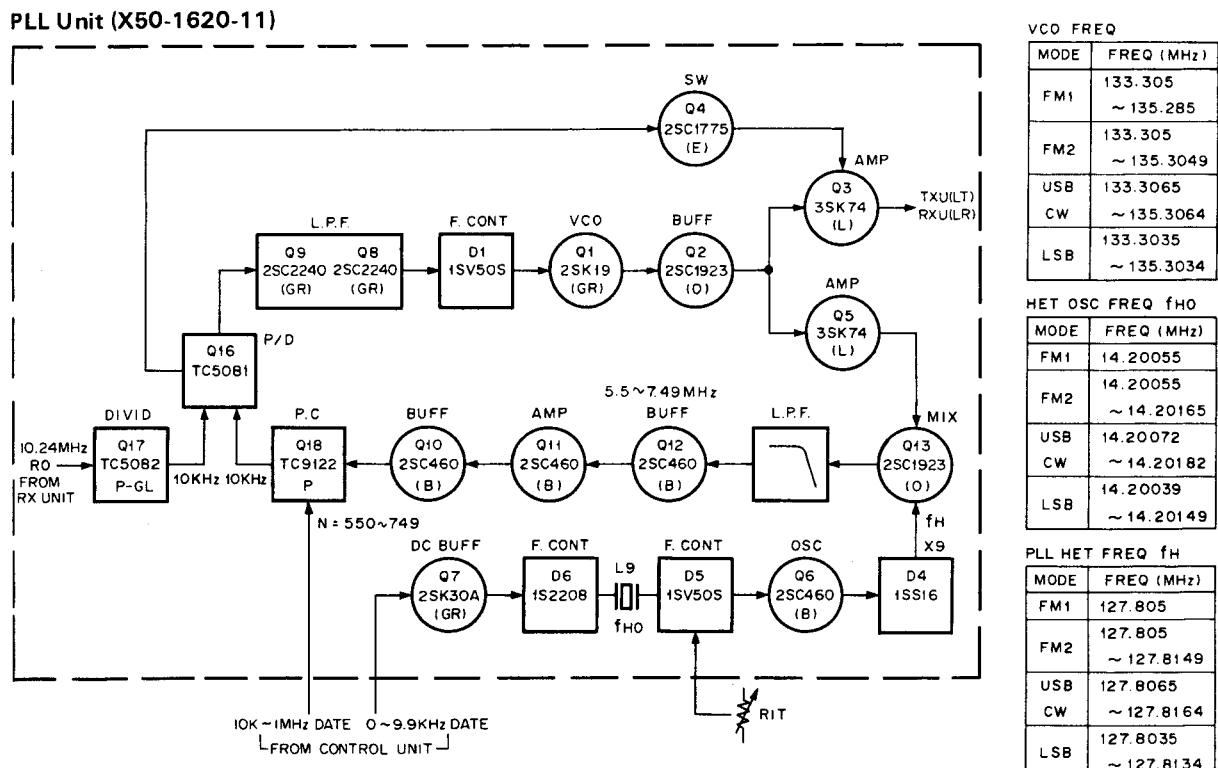

Fig. 2 PLL Unit Block Diagram
Fig. 2 shows a basic block diagram of PLL circuit. The signal from the VCO (Q1, a 2SK19 (GR)) passes through the buffer amplifier formed by Q2, a 2SC1923 (O) and Q5, a 3SK74 (L), and is then mixed with the HET (Heterodyne) signal by Q13, a 2SC1923 (O) to produce $5.5 \sim 7.49$ MHz signal. This signal is amplified by Q10, 11 and Q12, 2SC460 (B) and is frequency-divided by Q18 (TC9122P) according to the BCD data (MHz, 100 kHz and 10 kHz order) from the control unit, to produce 10 kHz comparison signal. Simultaneously, the 10.24 MHz signal from the RX unit is frequency-divided to 1/1024 by Q17 (TC5082P-GL) to produce 10 kHz reference signal. These signals are phase-compared by Q16 (TC5081P) and fed to the LPF formed by Q8 and Q9, and the resulting control voltage is applied to the VCO vari-cap tuning diode.